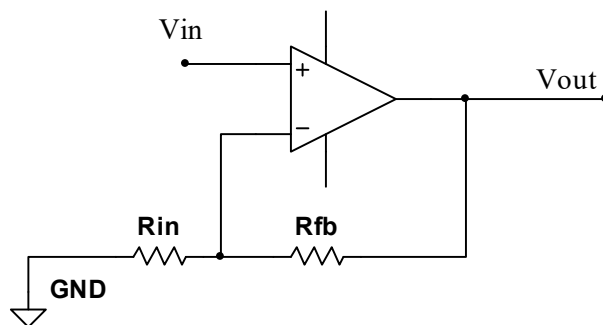

Figure 5.13: Non-inverting Amplifier using op-amp
- Figure 5.13 shows what is known as the non-inverting configuration